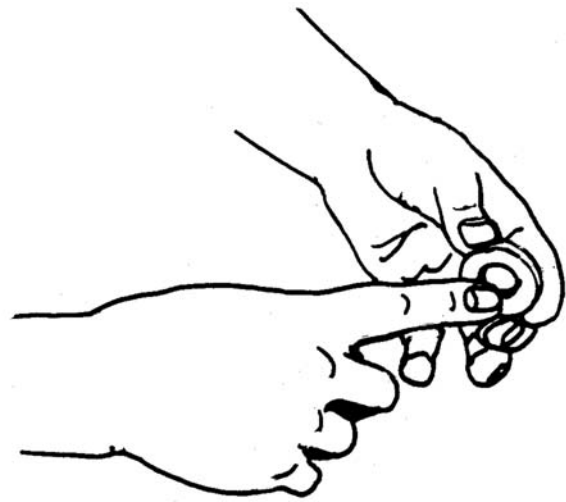

Figure 6-67. Greasing Oil Seal Lip
- a. Coat new oil seal lip with grease. See Figure 6-67.